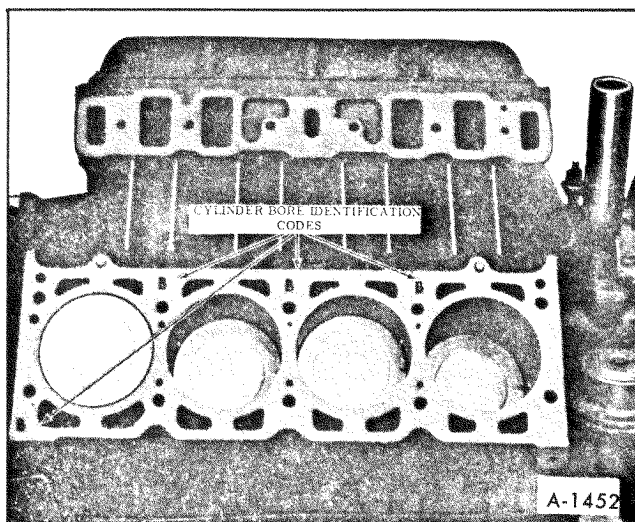

Figure 40—Cylinder Bore Marking
**NOTE:** Refer to PISTON INFORMATION Chart. When replacing pistons, the original cylinder size is stamped with a code letter on the block near each cylinder on the cylinder head surface. See Figure 40.